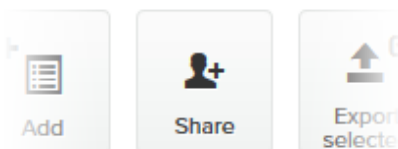

Figure 72. Plug-ins web page (Share button)
4. Click the **Share** button in the upper left-hand corner of the **Plug-ins** web page (Figure 72 (page 156)).